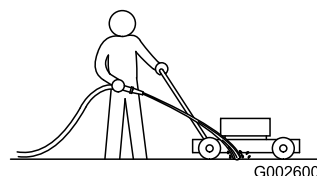

Figure 28
1. With the engine running on a flat paved surface, spray a stream of water in front of the **right** rear wheel (Figure 28).